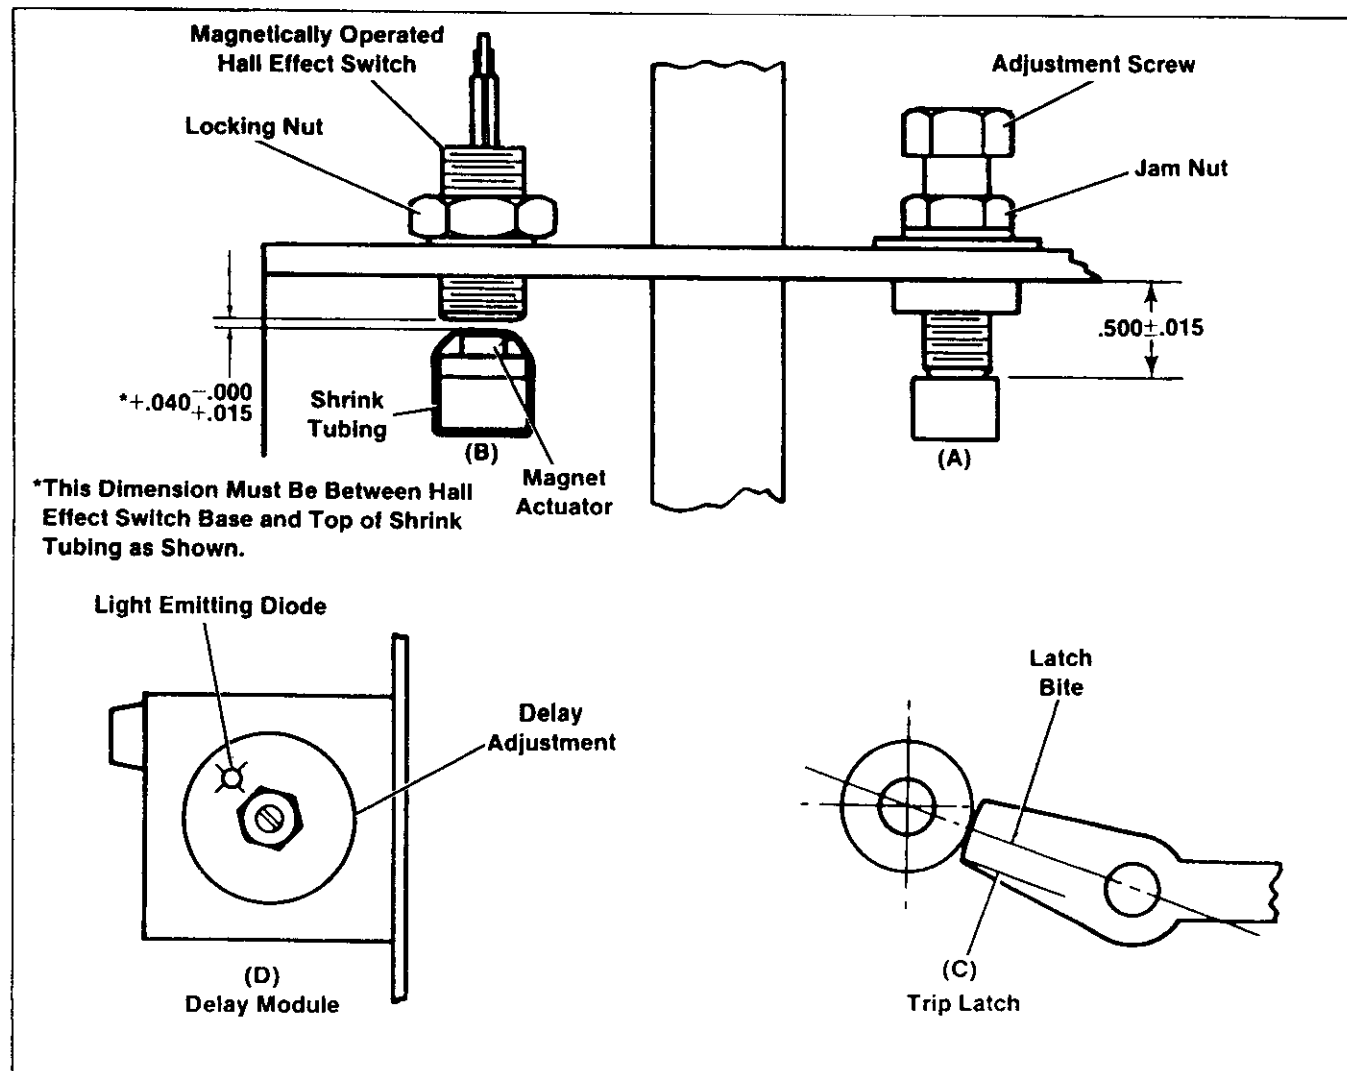

Figure 12. Trip Latch Bite and Check Switch Adjustments
The standard control circuit for a stored energy operator is shown in Figure 9. When the close control switch is closed, the circuit from terminal 7 through 88-2 and 52Y1 to 52B through trip latch timer, Figure 12 (when furnished), to terminal 6 energizes the closing coil, closing the breaker. As soon as the closing springs are discharged, and 88-3 switch contact closes to energize the 52Y relay. If the close control switch remains closed, the 52Y relay remains picked up through contact 52Y2. Control switch has to be released to reset control for another closing operation. This forms the anti-pumping relay cir-
Trip latch bite is established by setting the latch tails top surface $.500 \pm .015$ below surface as shown in Figure 12-(A). Lock securely with jam nut. One turn of adjusting screw will alter the gap 0.062 inches. This adjustment will produce a latch bite of approximately 0.259 to 0.111 inches as shown in Figure 12-(C).
(FIGURE 12(B) AND 12(D))